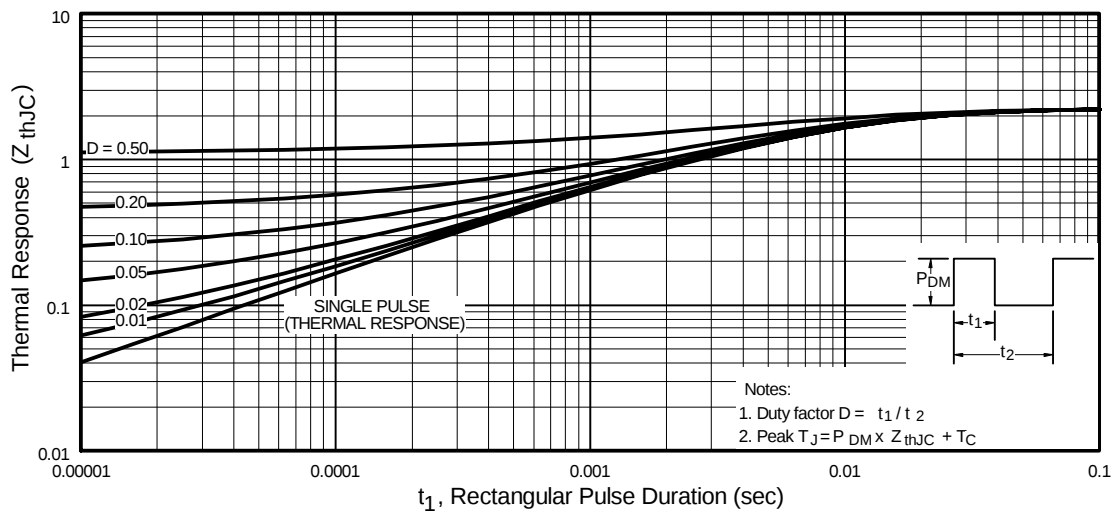

Fig 11. Maximum Effective Transient Thermal Impedance, Junction-to-Case
- ① Repetitive rating; pulse width limited by max. junction temperature. (See fig. 11)
② $V_{DD} = 25V$, starting $T_J = 25^\circ\text{C}$, $L = 410\mu H$